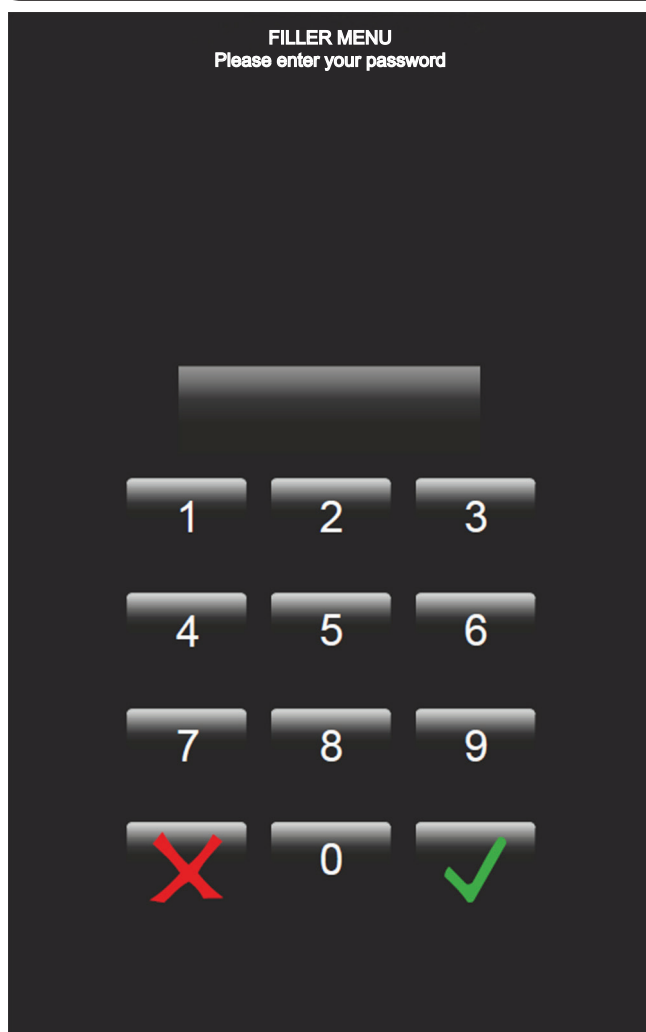

Fig.8.15 - Password
*The password enter page will be displayed only if the password is set (fig. 8.15).